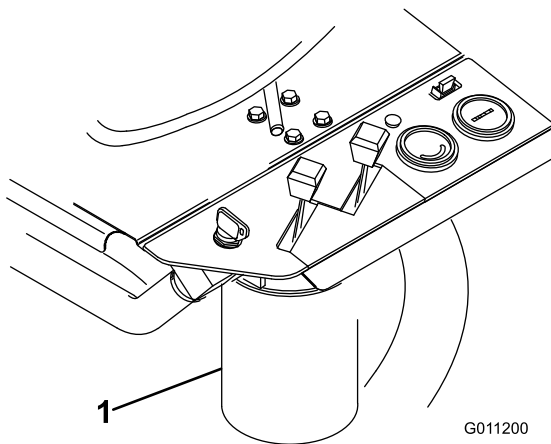

Figure 51
2. Clean the area around the filter mounting area (Figure 51). Place a drain pan under the filter and remove the filter.